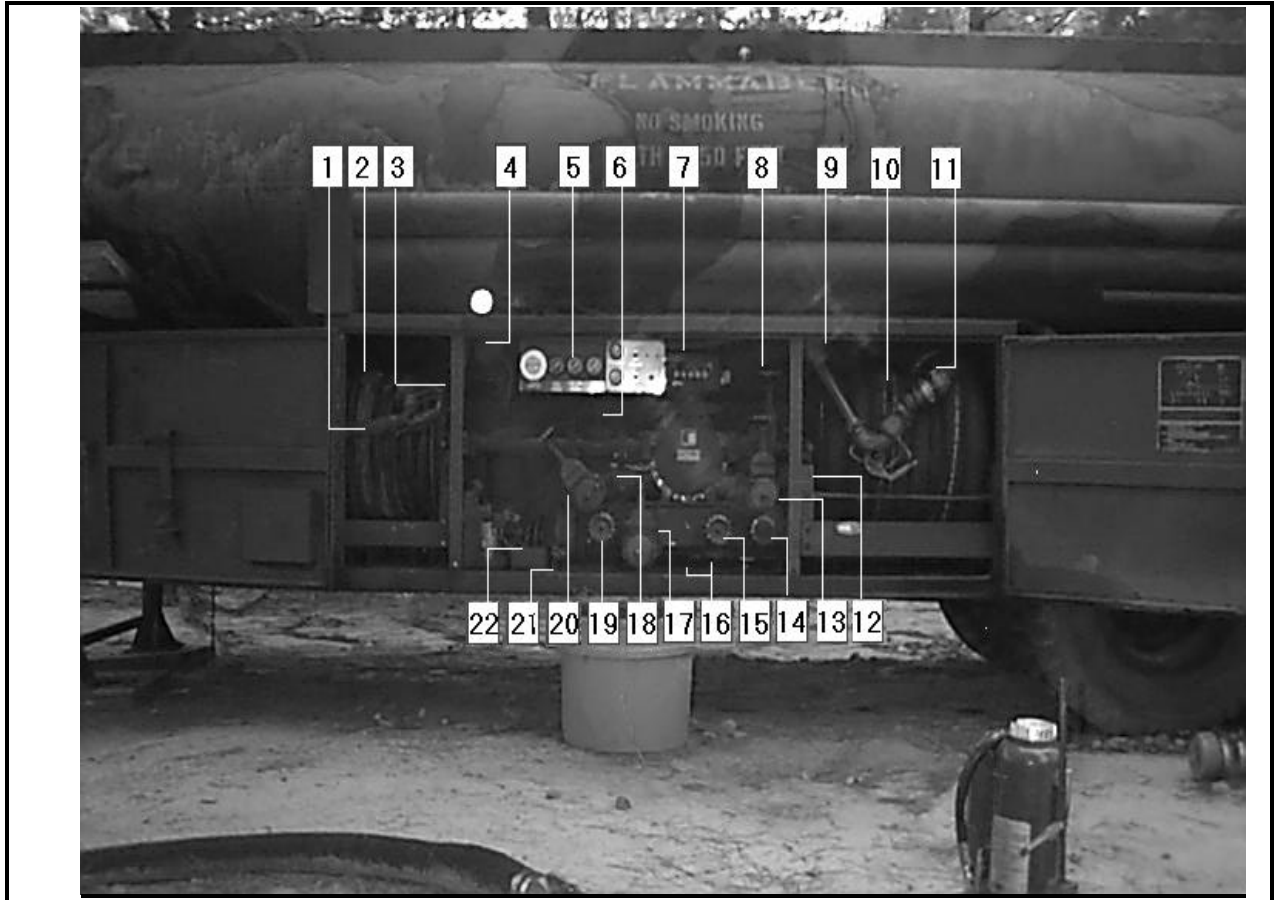
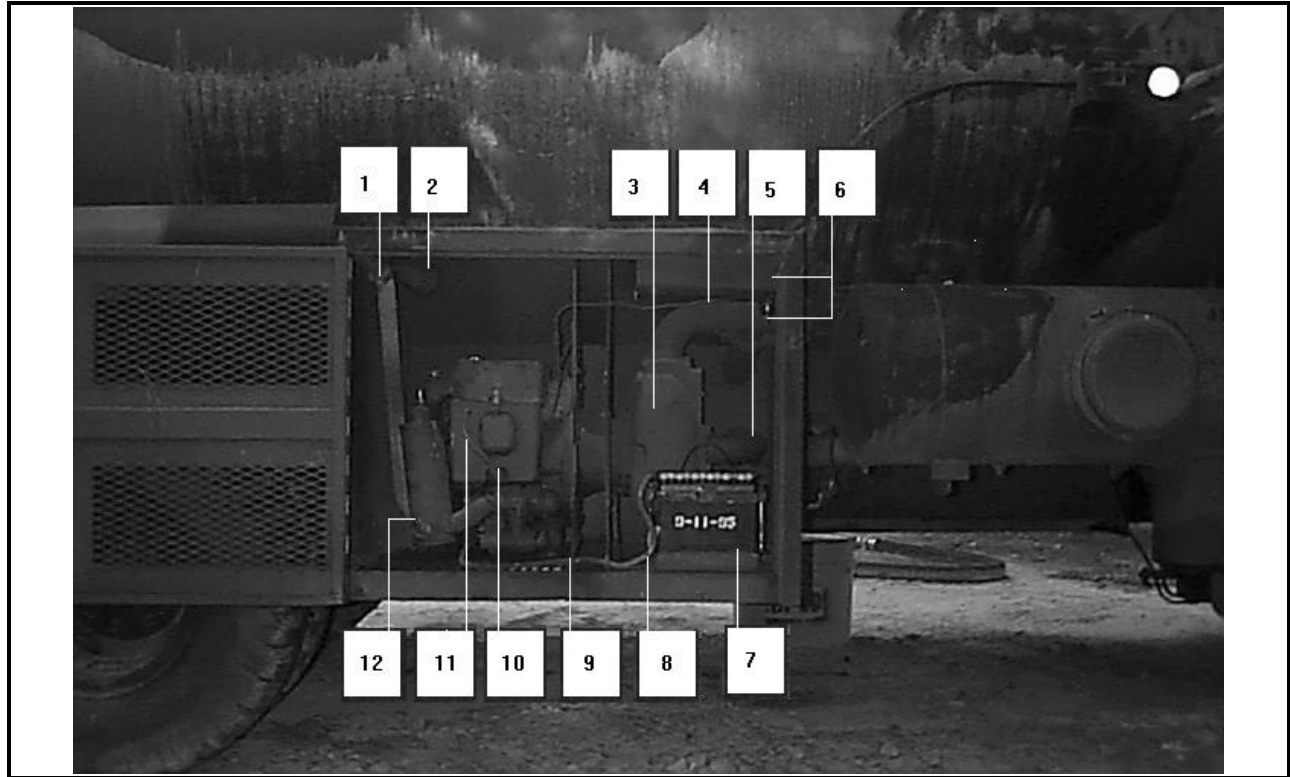

Figure 24-13. Roadside equipment cabinet of the M131A5C tank semitrailer
Figure 24-14. Curbside equipment cabinet of the M131A5C tank semitrailer
manhole covers. An equipment cabinet is mounted on each side of the tank vehicle. These cabinets hold the semitrailer discharge and loading system. The components of this system located in the roadside equipment cabinet are shown in Figure 24-13, page 24-12. Figure 24-14, page 24-13, shows the system components located in the curbside equipment cabinet. A hose compartment is mounted on the tank body above the roadside equipment cabinet as shown in Figure 24-10, page 24-11. The hose compartment is horizontally divided into three tubes which house three 15-foot lengths of suction hose and gage stick.
- **Auxiliary engine and pump assembly** . The auxiliary engine and pump assembly is located in the curbside cabinet as shown in Figure 24-14, page 24-13. It is used to pump product into or out of the compartments. The assembly has a two-cylinder, four-cycle, horizontally opposed, air-cooled engine and a self-priming, 225-GPM centrifugal pump. The pump is connected directly to the engine through a shaft mounted on a bearing. The engine and pump are separated by a fire wall.